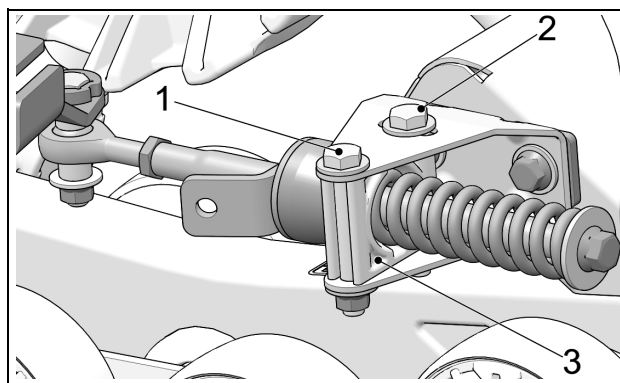

Figure 5
- Loosen anti-rotation bracket bolts (1) and (2) to allow the anti-rotation retainer (3) to rotate freely on its axis. See Figure 5.